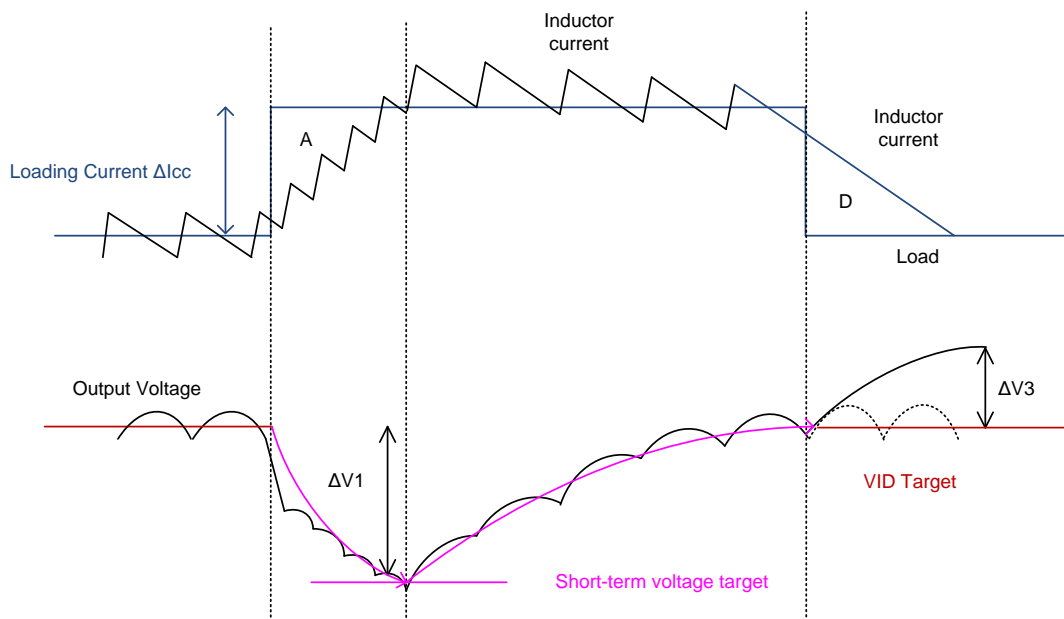

Figure 9. Zero Loadline with AC-droop Control
Figure 9 shows the condition with AC-droop control. While loading occurs, controller temporarily changes VID target to short-term voltage target. Short-term voltage target is related to transient loading current ΔICC and can be represented as the following :
where the VCS\_SUM is the sum of current sensing signal from DCR sensing or SPS current sensing. For DCR sensing, the VCS\_SUM = VCSSPSUM - VCSNSUM = IOUT\_SUM × DCR/N. The current gain (AI) can be set by Pin Setting of AI Gain. Users can adjust AI gain by I2C register 0x41[3:2] to set desired short term voltage target. The short-term voltage target reverts to VID target slowly after approximately 100μs. The short-term voltage target can help inductor current not to exceed loading current too much and then the ring back can be suppressed. Referring to Figure 9, the overshoot